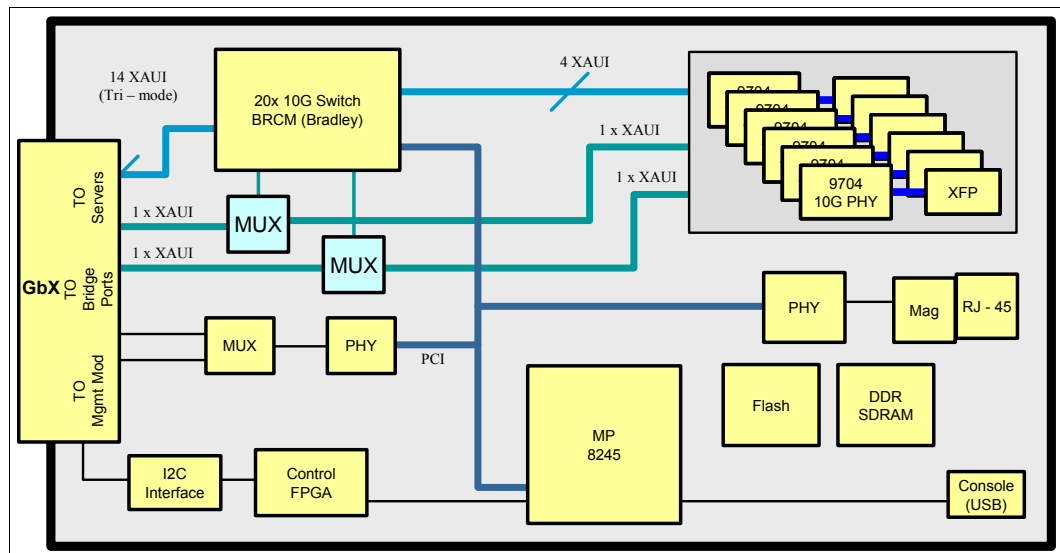

Figure 3-3 Nortel 10 Gb Ethernet Switch Module block diagram
The Nortel 10 Gb Ethernet switch block diagram is shown in Figure 3-3 below. As shown in the diagram, switching is performed by the Broadcom "Bradley" chip. The Management Processor (MP) on this switch, which supports all switch management, is the PPC 8245 chip.